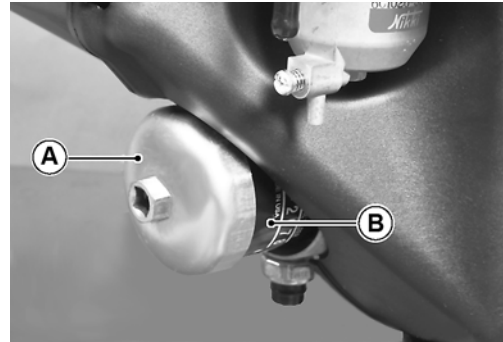

Fig. 20 Remove Oil Filter
Clean the area around filter. Using a filter wrench, strap wrench or other suitable wrench, remove the filter (B) from the engine and allow the oil to drain. The 'O' rings may remain on engine (A) or filter (B) (Ref Fig. 20 on page 16)